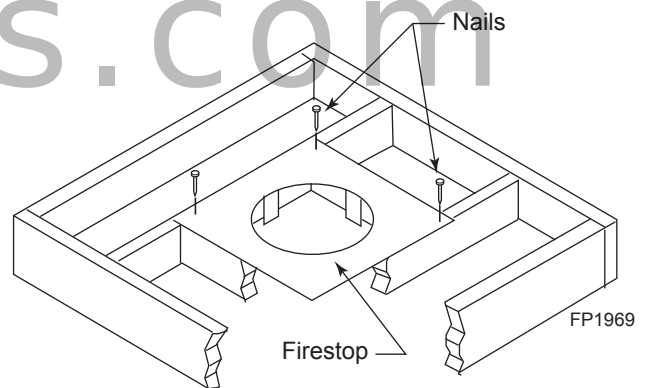
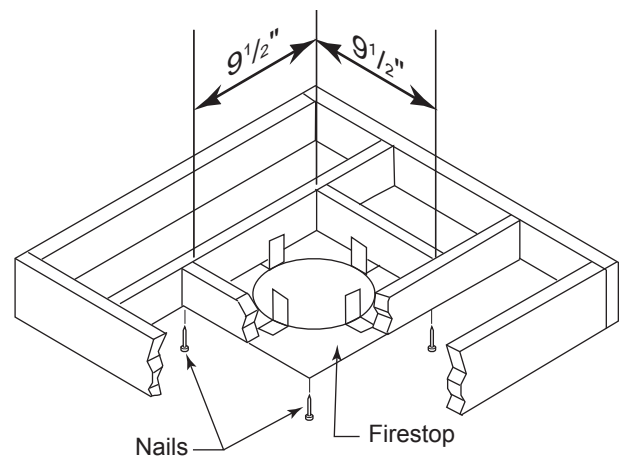

Figure 31 - If Area Above is a Room, Install Firestop above Framed Hole as Shown
Figure 32 - If Area Above is Not a Room, Install Firestop above Framed Hole as Shown
1. Cut a 9 $\frac{1}{2}$ " (241 mm) square hole in the ceiling using the locating hole as a center point. The opening should be framed to 9 $\frac{1}{2}$ " x 9 $\frac{1}{2}$ " (241 mm x 241 mm) inside dimensions as shown in *Figure 32* using framing lumber the same size as the ceiling joist. If the area above the ceiling is an insulated ceiling or a room, nail firestop from the top side. This prevents loose insulation from falling into the required clearance space. *Figure 31*. Otherwise, install firestop below the framed hole. *Figure 32*
2. Cut the hole 1/8" larger than the support box outline. *Figure 32*